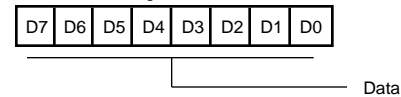

Figure 25. Result Register (Read-Only)
**ADE (bit 7).** A zero powers down and disables power and any A/D conversions or accessing any ADC registers except writing to ADE bit. A one Enables all ADC accesses. ADC result register is shown in Figure 25.